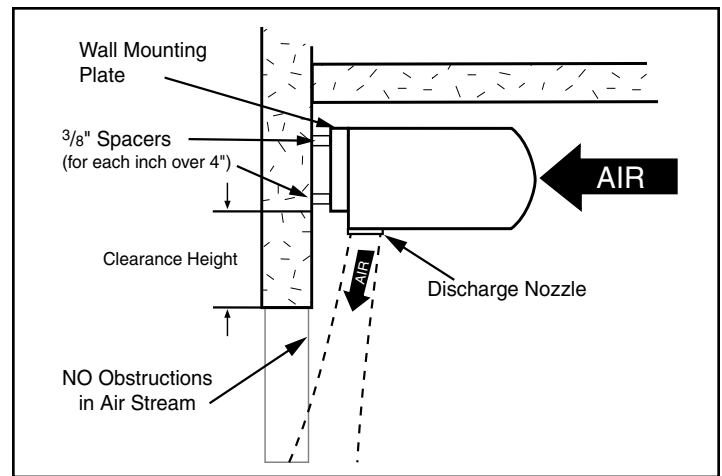

FIGURE 3 - High Wall Mounting
- B. For optimum performance, the bottom of the air door (discharge nozzle) should be no more than 1" above the top of the door opening with the air door(s) mounted flush to the wall. If the air door must be mounted higher, it must be **spaced out** from the wall $\frac{3}{8}$ " for every inch the air door is above the door opening. See Figure 3. For optimum protection, any void between the air door and the wall should be sealed along the full length of the air door.
See Figure 3. For optimum protection, do not exceed the recommended maximum mounting height of 8' above the finished floor. Any void between the mounting plate and the wall should be sealed along the full length of the mounting plate.